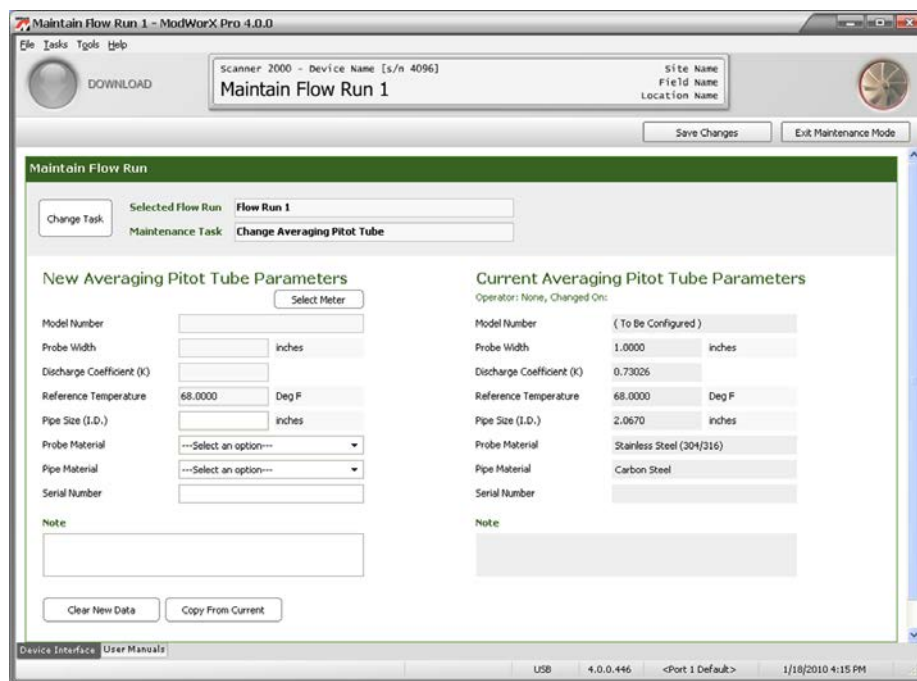
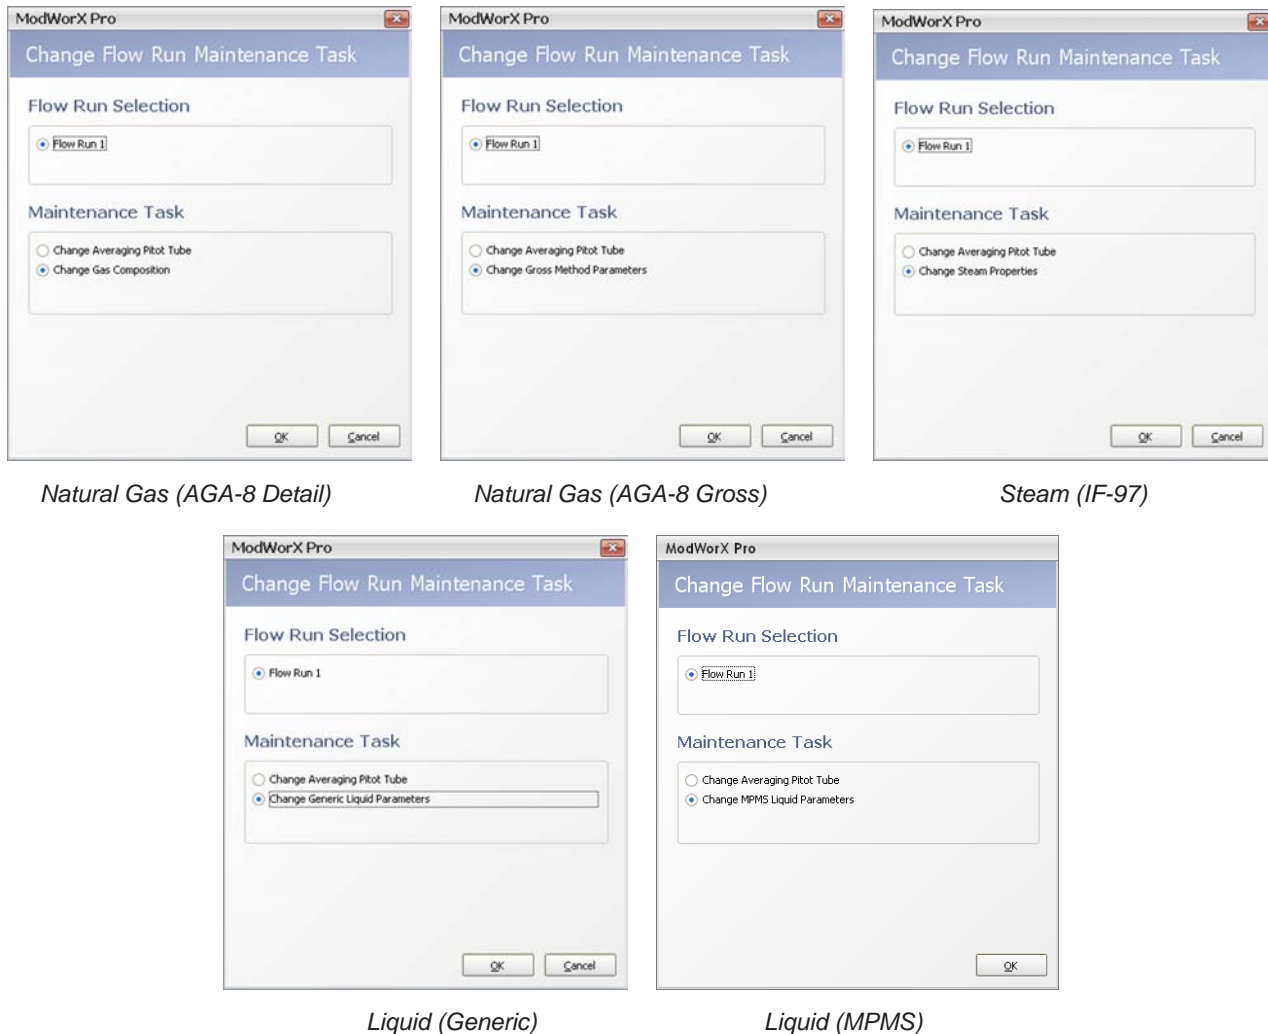

Figure 11.3
Figure 11.4
5. Click **OK** to save the selections. The Maintain Flow Run screen will appear (Figure 11.3).
- If Change Averaging Pitot Tube is not displayed in the Maintenance Task field at the top of the Maintain Flow Run screen, click on **Change Task** (Figure 11.3, page 151). The Change Flow Run Maintenance Task dialog will appear (Figure 11.4). The selections available on this screen will vary, depending on the fluid property calculation method selected, as shown below.